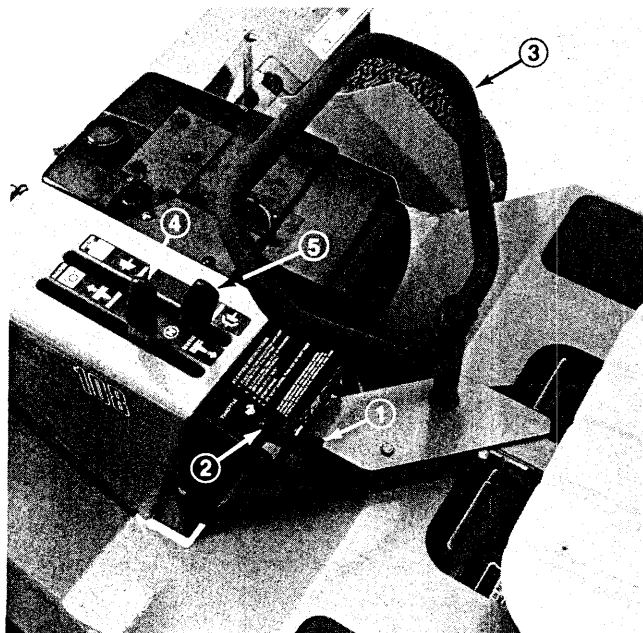

Figure 11
2. Ignition Switch (Fig. 11) — On control panel at left of engine. Turn key to RUN position before pulling recoil starter handle to start engine. Turn key to OFF position to stop engine.
3. Throttle Lever (Fig. 11) — In control panel, left side of engine. Move between FAST and SLOW positions to regulate speed of engine and control speed of mower.
5. Steering Wheel (Fig. 11) — Use to guide machine in proper direction.
6. Traction Control Lever (Fig. 11) — Push forward for forward traction; pull rearward and hold firmly for reverse operation. Return lever to neutral before stopping engine and leaving machine.
7. Cutting Unit Control Lever (Fig. 11) — Push forward to ENGAGE reels. Pull rearward to DIS-ENGAGE cutting units.
STARTING/STOPPING ENGINE (Fig. 11 & 12)